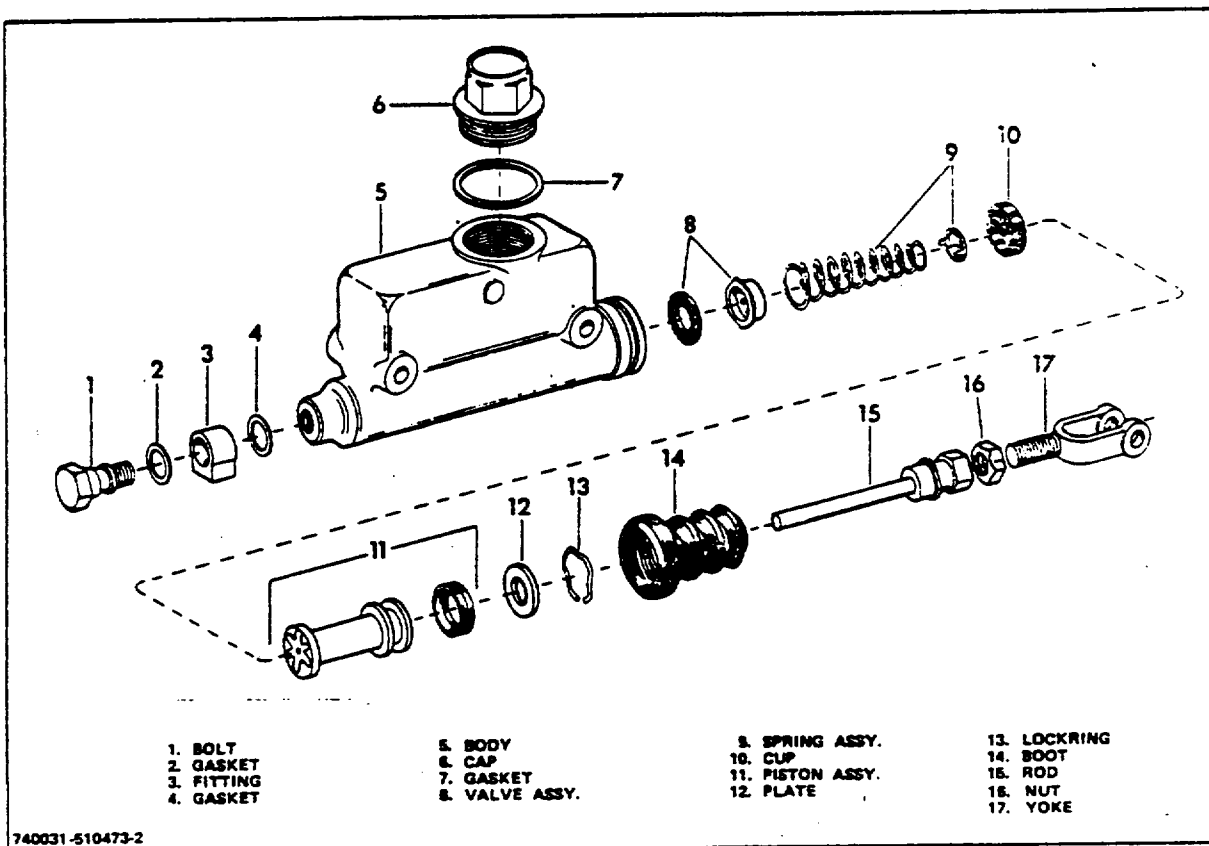

Figure 2-7. Type I Master Cylinder with Brake Pedal Linkage
Two types of master cylinder and pedal linkage are used on the electric lift trucks (Type I, Fig 2-7).
Remove and disassemble the master cylinder and pedal linkage of both types using Figure 2-7 and the following steps:
- f. Remove yoke, rod, and boot on Type I master cylinder (Fig 2-7).
- g. Pry out the lockring from the Type I master cylinder (Fig 2-7) and carefully withdraw the plate, piston assembly, cup, spring assembly, and valve assembly.
- c. Place cup in cylinder bore and install piston assembly in bore of master cylinder; also install plate of Type I master cylinder (Fig 2-7).
- d. Compress spring assembly by pushing in piston assembly (and plate of Type I master cylinder, Figure 2-7). Secure internal components with lockring.
- g. Install boot, rod, and yoke on Type I master cylinder (Fig 2-7).